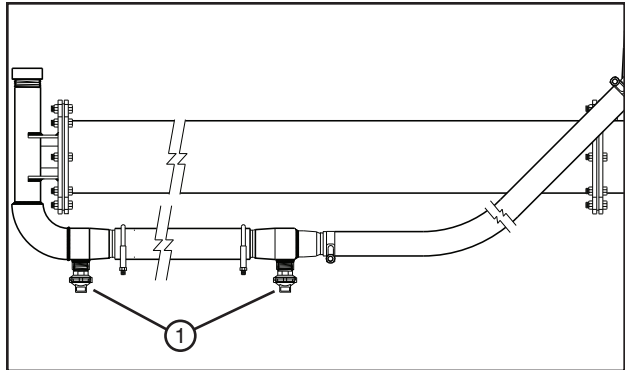

Figure 92-1 1. Booster Pump Hose Drain
- Make sure the booster pump hose drain is not plugged with sand or debris and the hose is completely drained. See figure 92-1.